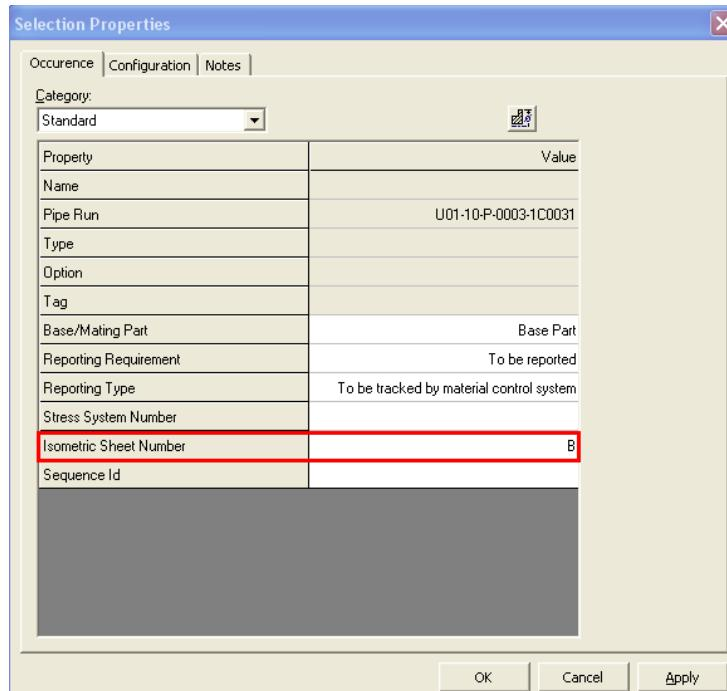

Figure 15.31: Selection Properties Dialog Box
- Right-click the selected pipe parts and open the **Selection Properties** dialog box to assign them to another isometric sheet number **B** for creating an isometric drawing. Key in **B** in the **Isometric Sheet Number** box in the **Selection Properties** dialog box, as shown in Figure 15.31, and click **OK**.